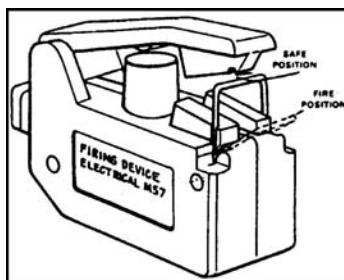

Figure 071-325-4425-13. Firing device in the FIRE position
c. Position the firing device safety bail in the FIRE position (figure 071-325-4425-13).